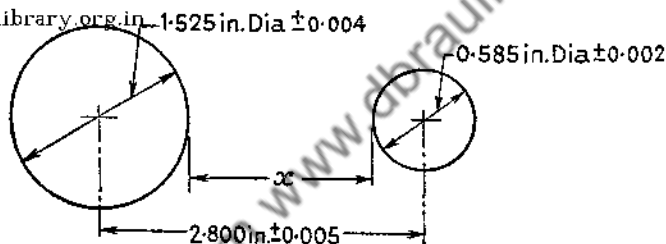

Fig. 6
(2) Calculate the greatest and least permissible values for the dimension marked  $x$  in the fig. 6.